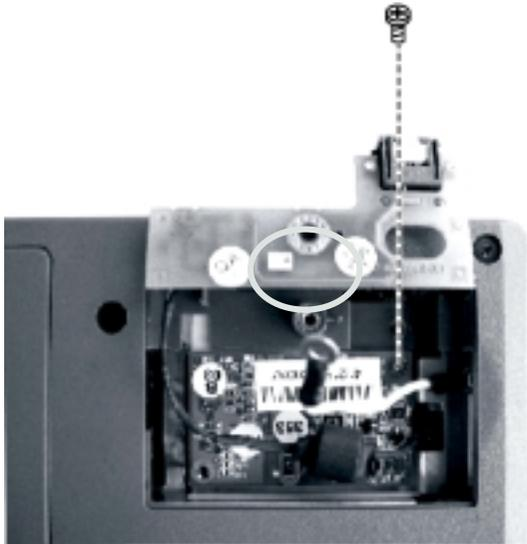

Figure 2-9
4. Slightly lift up the connector board, and then remove two screw fastening the modem card. Now you can take out the modem card from the compartment. (figure 2-9)